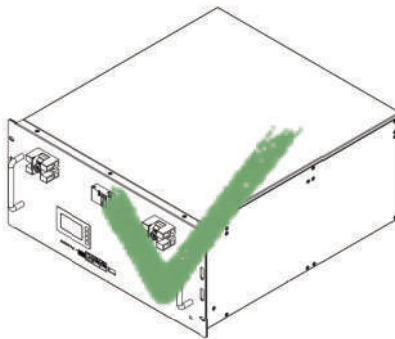

Figure 6-3 Right Way to Place Battery
- The VT-91600 battery is preferred to be installed in a flat position as shown in Fig 6-3.